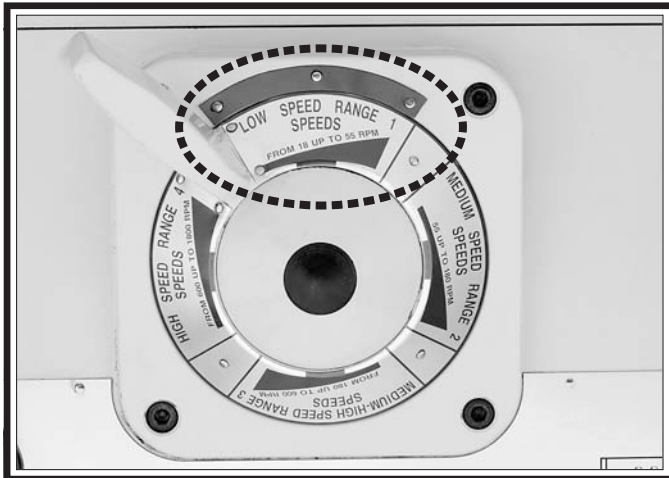

Figure 25. Spindle speed range lever.
7. Move the spindle speed range lever to low speed range 1 (18-55 RPM), as shown in **Figure 25**.